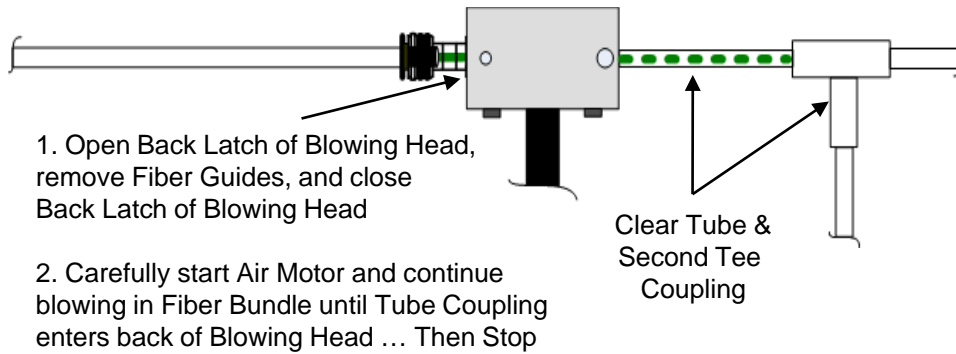

Figure 10B
11.8 Blowing Head Operator slowly opens Motor Rate Control Valve and moves fiber bundle and Tube Coupling into back of Blowing Head. **See Fig. 10B.**